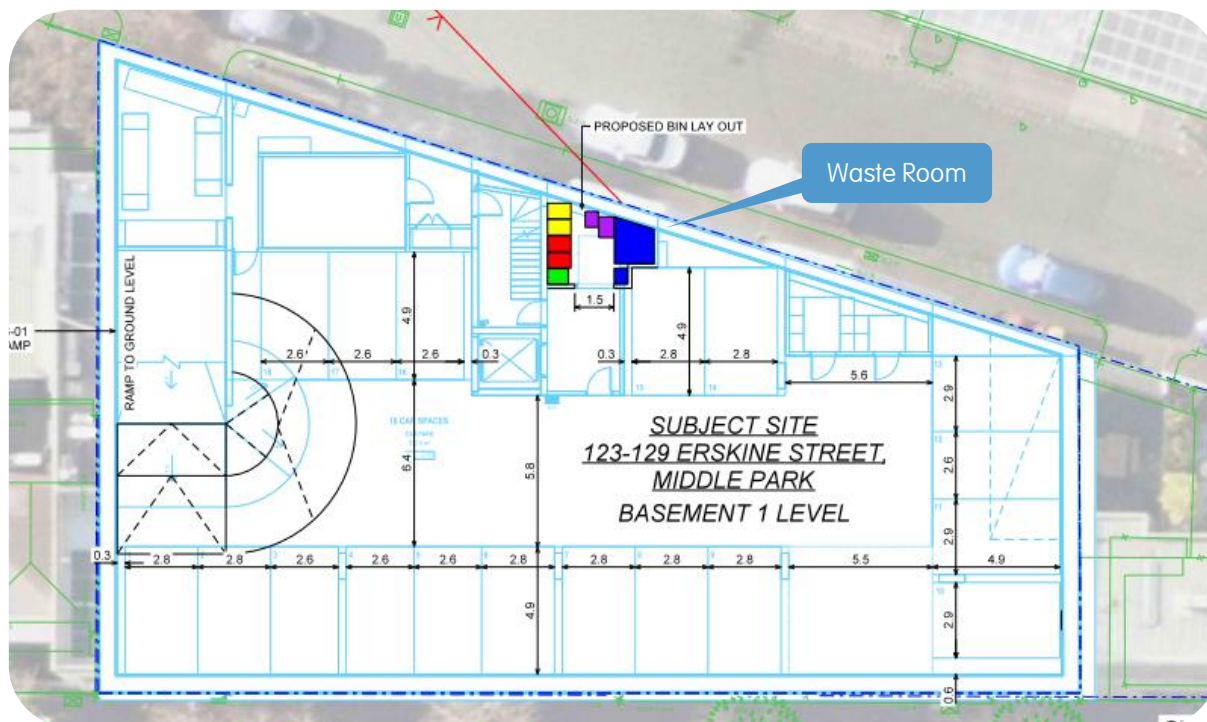

Figure 4 Bin Room
A layout plan of the residential bin storage arrangements is illustrated in Figure 4 overleaf, with a scaled plan attached as an annex to this report.
A dedicated two (2) sq.m area for the storage of hard waste has been set aside in waste room on the basement level (as indicated in Figure 4). Residents and tenants will be responsible for transferring their hard waste to the designated collection point.